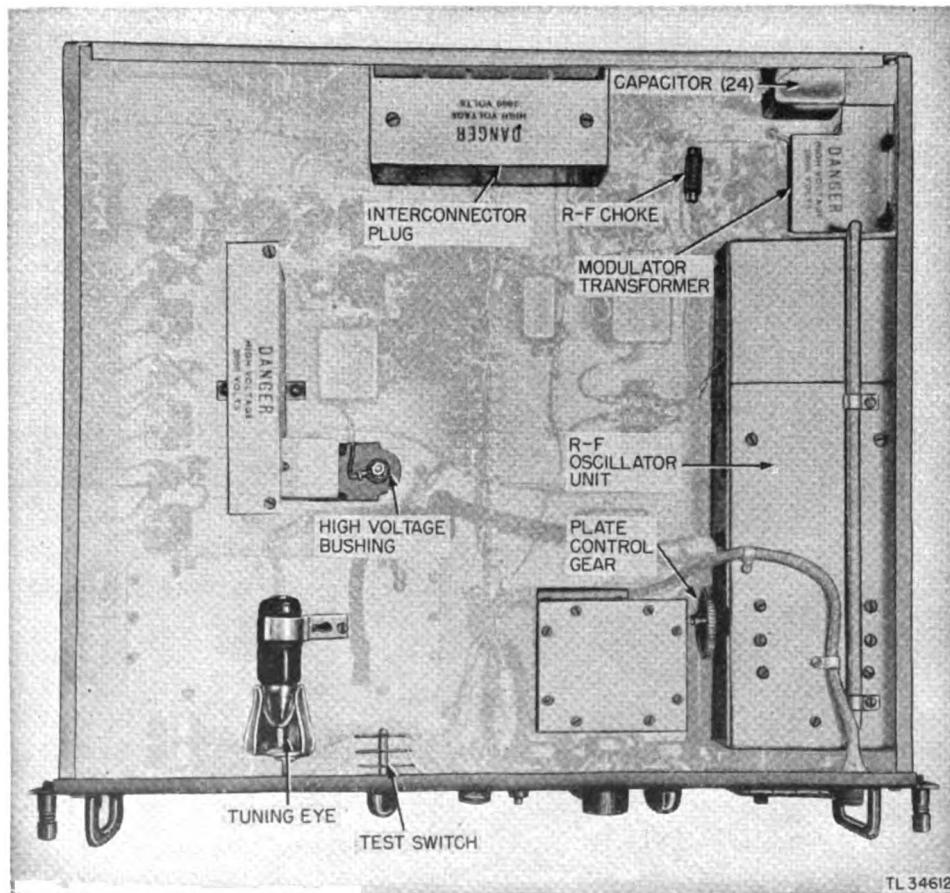

Figure 17. Receiver and transmitter—bottom view.
a. LOCATION (fig. 17).
(1) The tube sockets for—
(2) Tube and socket of tuning eye.
(5) The precision-type resistor across capacitor 24 for excessive discoloration.
(6) Oil-filled paper capacitors for—
(7) All standoff insulators for general condition. Make sure the mountings are secure.
(8) The high-voltage bushings (fig. 3) of oil-filled paper capacitor 25 (fig. 17) for—
- (9) The TEST SWITCH (fig. 17) for—
- (10) The lower side of the r-f assembly (fig. 17) for cleanliness. Do not disturb the assembly screws.
- (11) The modulation transformer terminals (fig. 17) for—
- (12) The r-f choke coil on the modulator tube socket (fig. 17) for—
- (13) The small r-f heater-choke coil for—
- (14) PLATE control gear for—